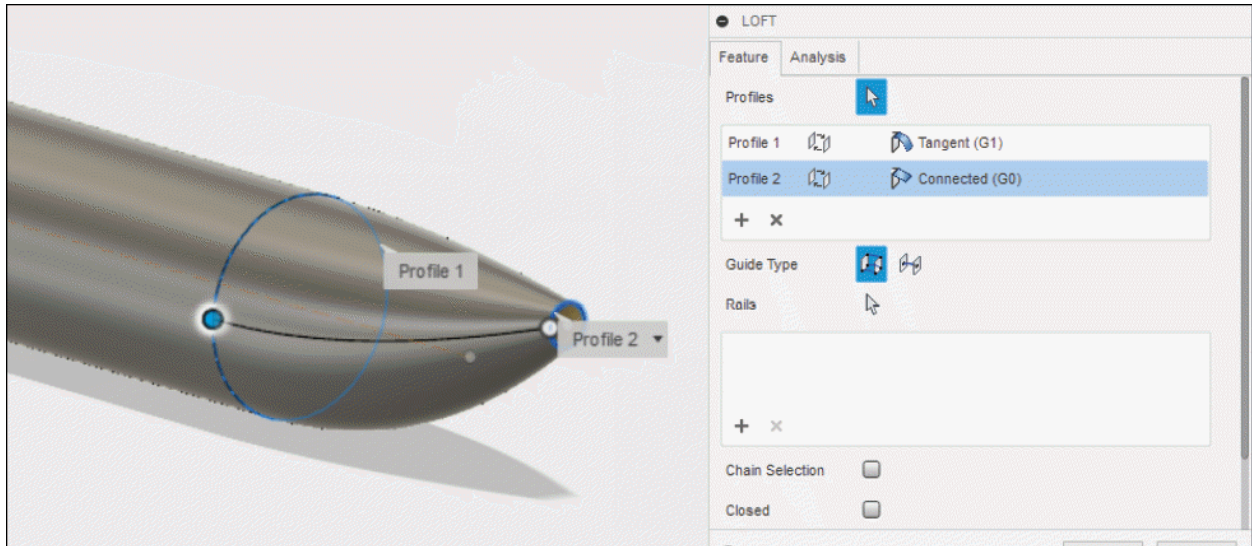

Figure-44. Selecting sketch for loft feature
- You need to select the two sketch to create loft feature; refer to Figure-44.